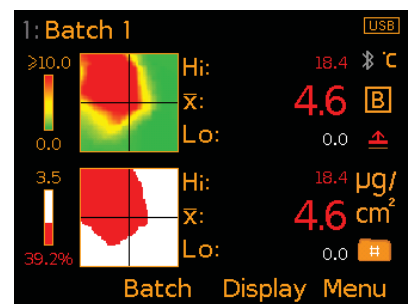

Fig. 8: Salt Density Map & Pass/Fail Map
- **Salt Density Mapa** (Fig. 8); Provides a visual indication of the density of salt contamination over the test area. Levels of soluble salts are illustrated using a green and red contour system; green for very low salt concentration or uncontaminated areas; yellow for areas with mid salt concentration; and red for areas with levels of salt contamination exceeding the defined map scale range.